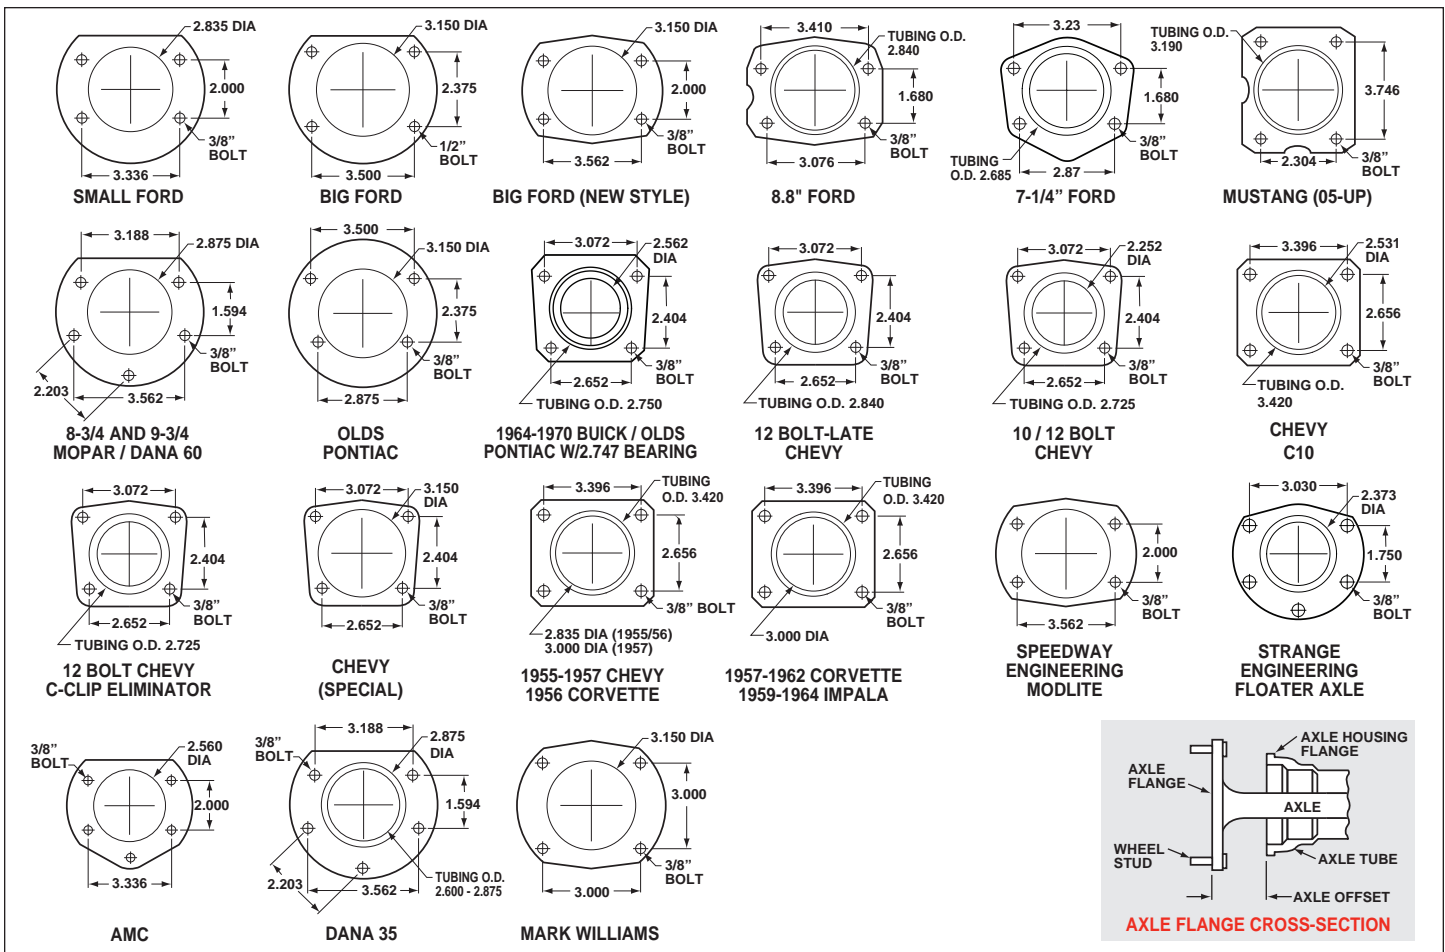

Figure 5. Rear Housing Flange Chart and Axle Flange / Offset Cross-Section
• Dimension from wheel side of axle flange to wheel side of axle housing flange (see Figure 5, lower right hand corner). This dimension is critical to ensure proper alignment of the rotor to the caliper, and should match offset given in the kit description.